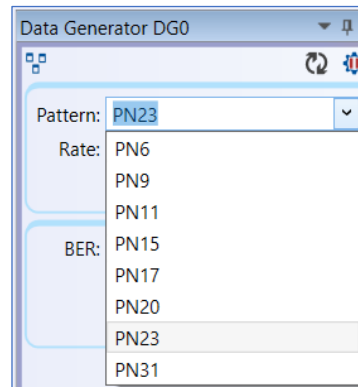

Figure 156: Data Generator, Pattern Drop Down Menu
- Pattern – Sets the data pattern generated by the RA, as shown in Figure 156; This is a fixed pattern or a pseudorandom pattern that repeats based on the chosen pattern/sequence (a shorter pattern looks more regular, a longer pattern looks more random)